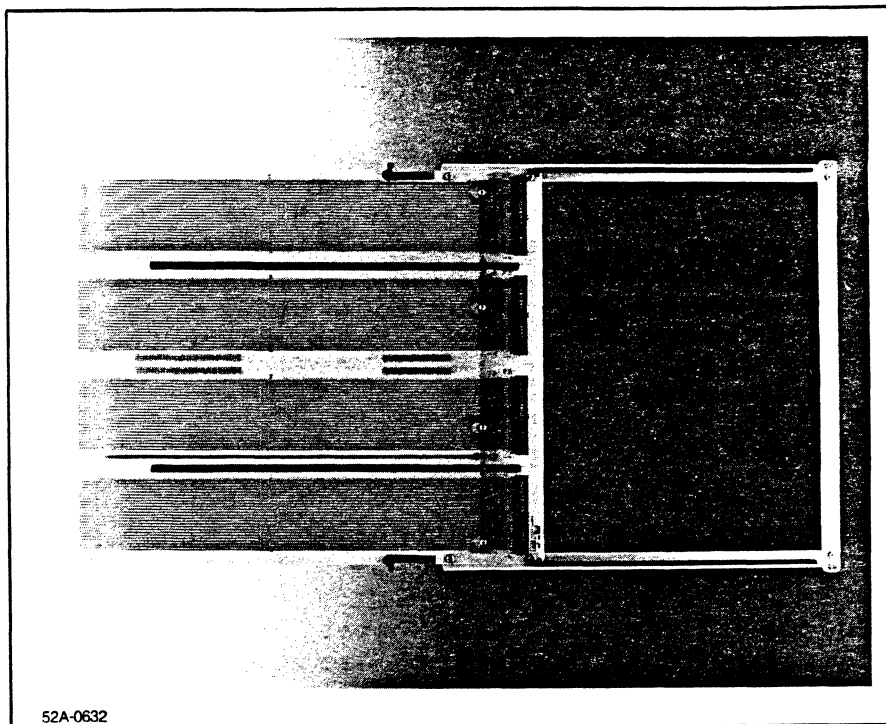

Figure 6-3. Extender card
- 2) Extender card, part number 25591-60001, as shown in figure 6-3.